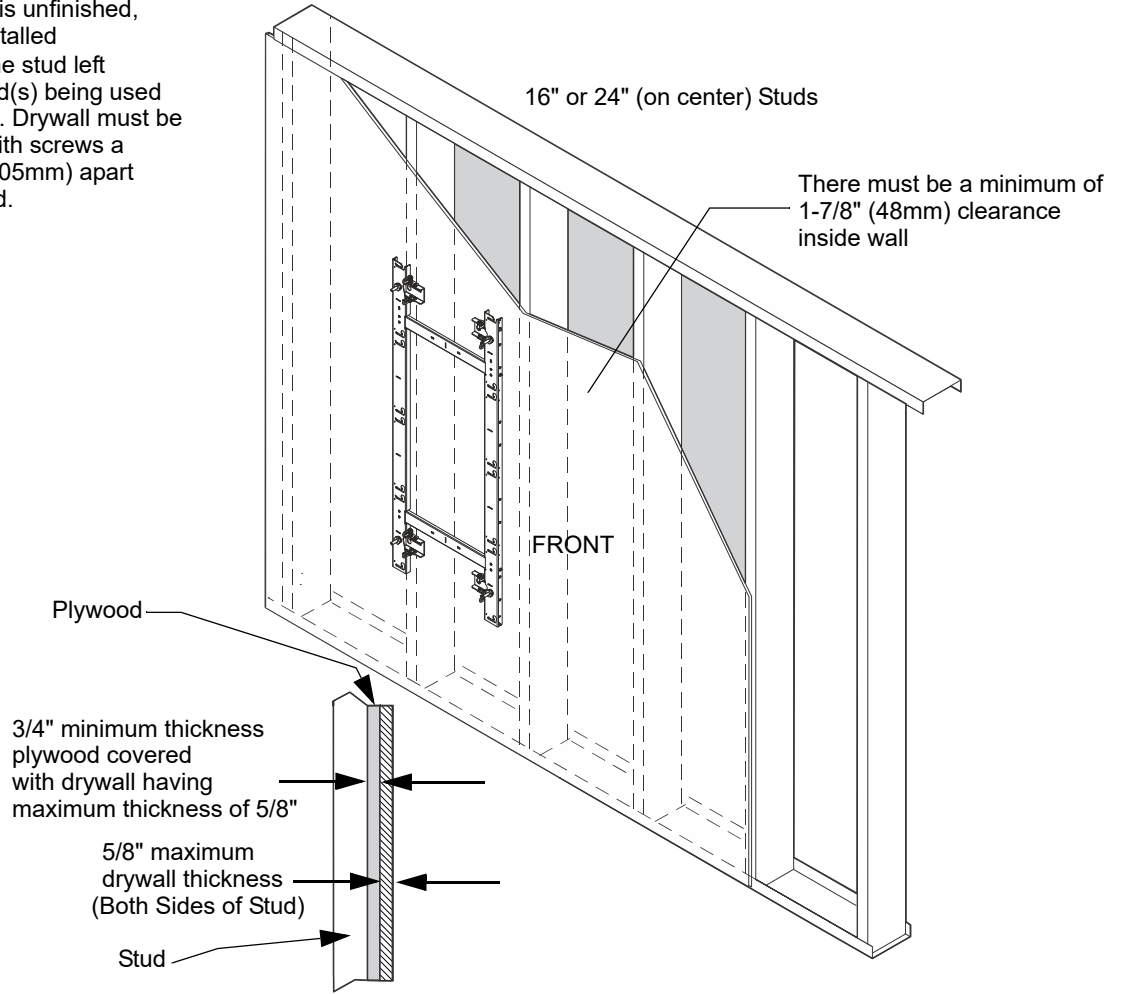

**Figure 24**
6. Insert 1/4-20 x 1-3/4" Phillips pan head screw through 1/4" washer, corresponding mounting hole in wall bracket and into anchor, and tighten until flush against wall bracket. DO NOT over tighten! (See Figure 24)